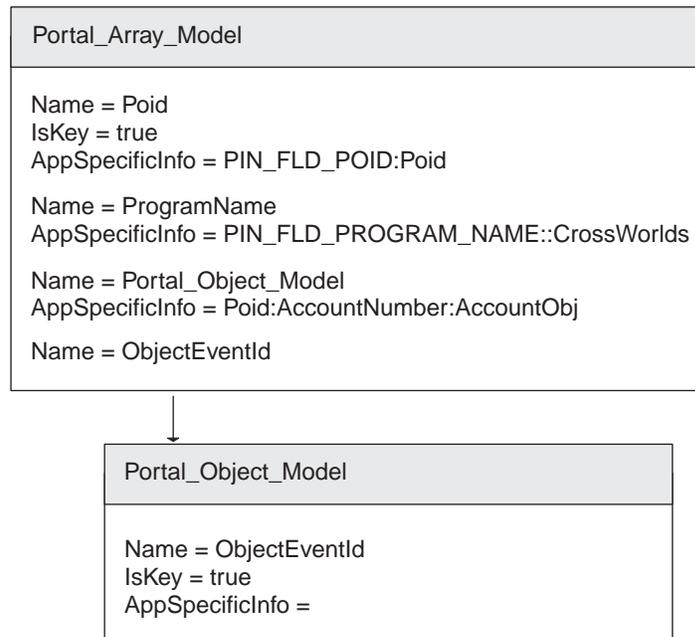

Figure 14. Portal\_Array\_Model utility business object definition
**Portal\_Array\_Model utility business object:** Portal\_Array\_Model is a hierarchical business object definition illustrated in Figure 14. It contains the information that the connector needs to build the input flist for the Update operation opcode. Specifically, the input flist requires an array that the Portal\_Account business object definition does not contain. The Portal\_Array\_Model utility object enables the connector to create the array.